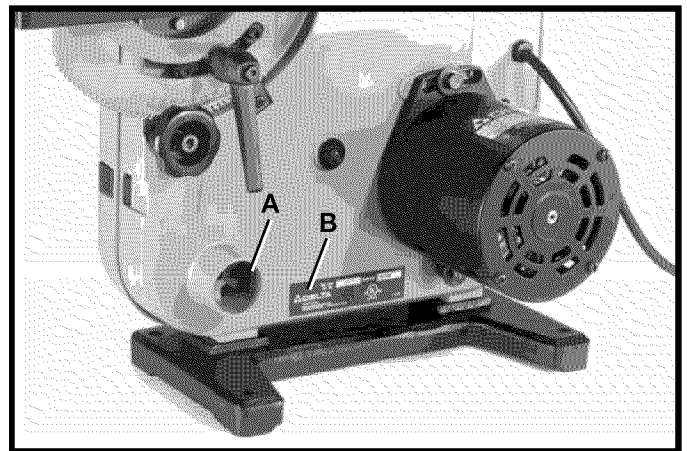

Fig. 43
A built-in dust chute (A) Fig. 43, on your bench band saw is equipped with a 1-1/2" I.D. opening that can easily be connected to a dust collection system.
The identification plate (B) Fig. 43, is located at the rear of the machine near the motor. The Model No. and Serial No. are located on this plate. Please write these numbers on the front cover of this manual for future reference.